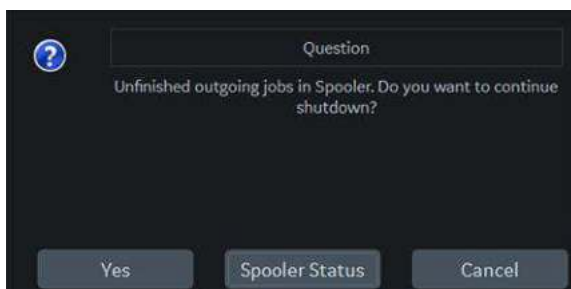

Figure 3-20. Confirm Shutdown
**NOTE:** *If a system shutdown is initiated while the system is still processing an incoming or outgoing DICOM job, a dialog box appears, notifying the user to confirm shutdown, check the spooler status or cancel the shutdown (see Figure 3-20).*